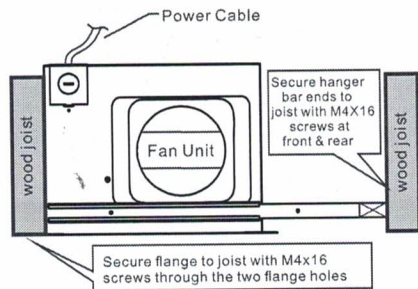

Figure 2: Mounted with one side onto joist
- ii) For method in figure 2, secure the fan unit to wood joists by driving two screws onto base of joist through the holes on housing flange and driving screws onto the other joist through the holes at the ends of hanger bars.